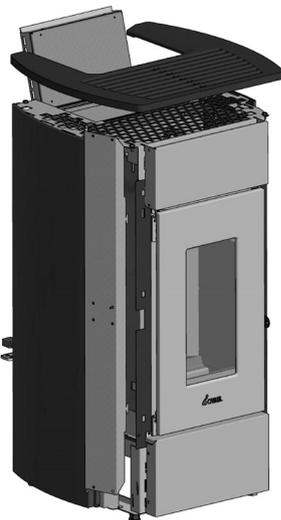

Fig. 29 - Release the tile support
- Open the pellet cover and remove the Top (see **Fig. 29**)